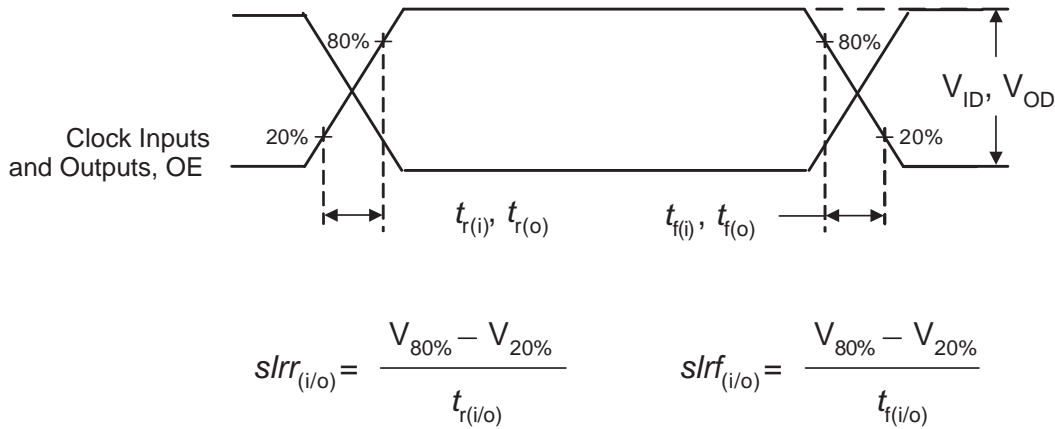

Figure 9. Input and Output Slew Rates
2. V_{ID} is the magnitude of the difference between the input level on CK and the input level on \overline{CK} , see Figure 9 for definition. The CK and \overline{CK} V_{IH} and V_{IL} limits define the dc low and high levels for the logic detect state.
NOTES: 1. V_{OD} is the magnitude of the difference between the true and complimentary outputs. See Figure 9 for a definition.